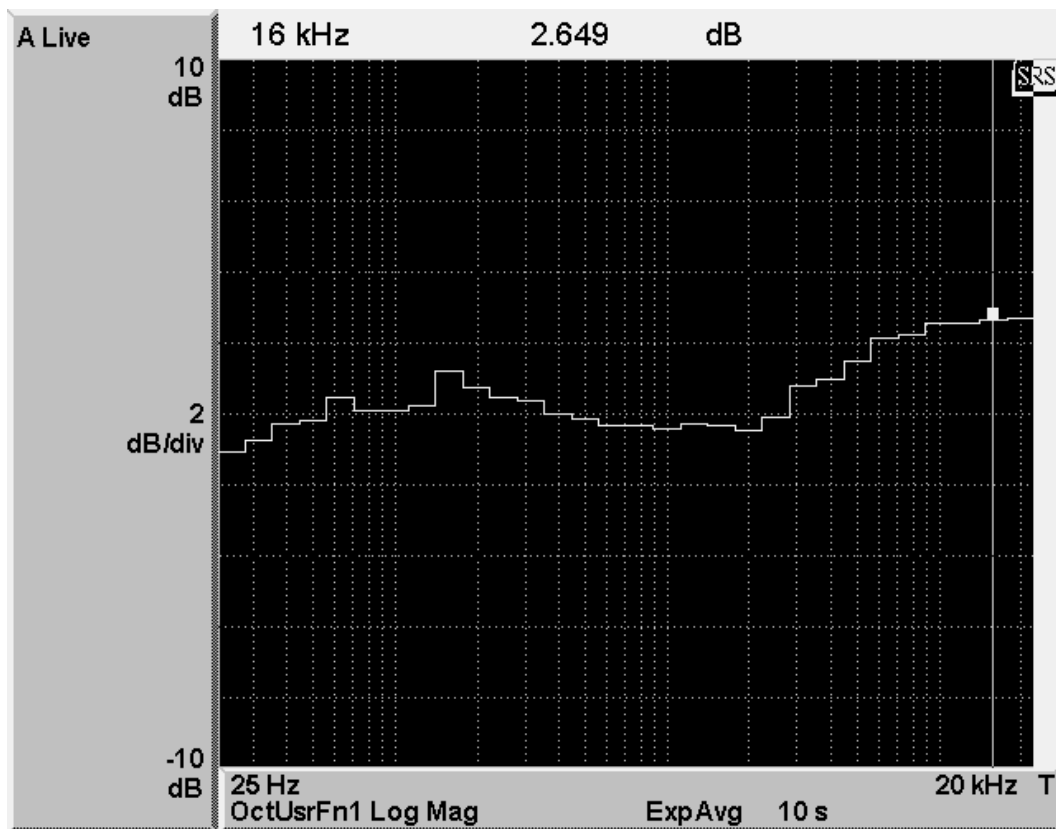
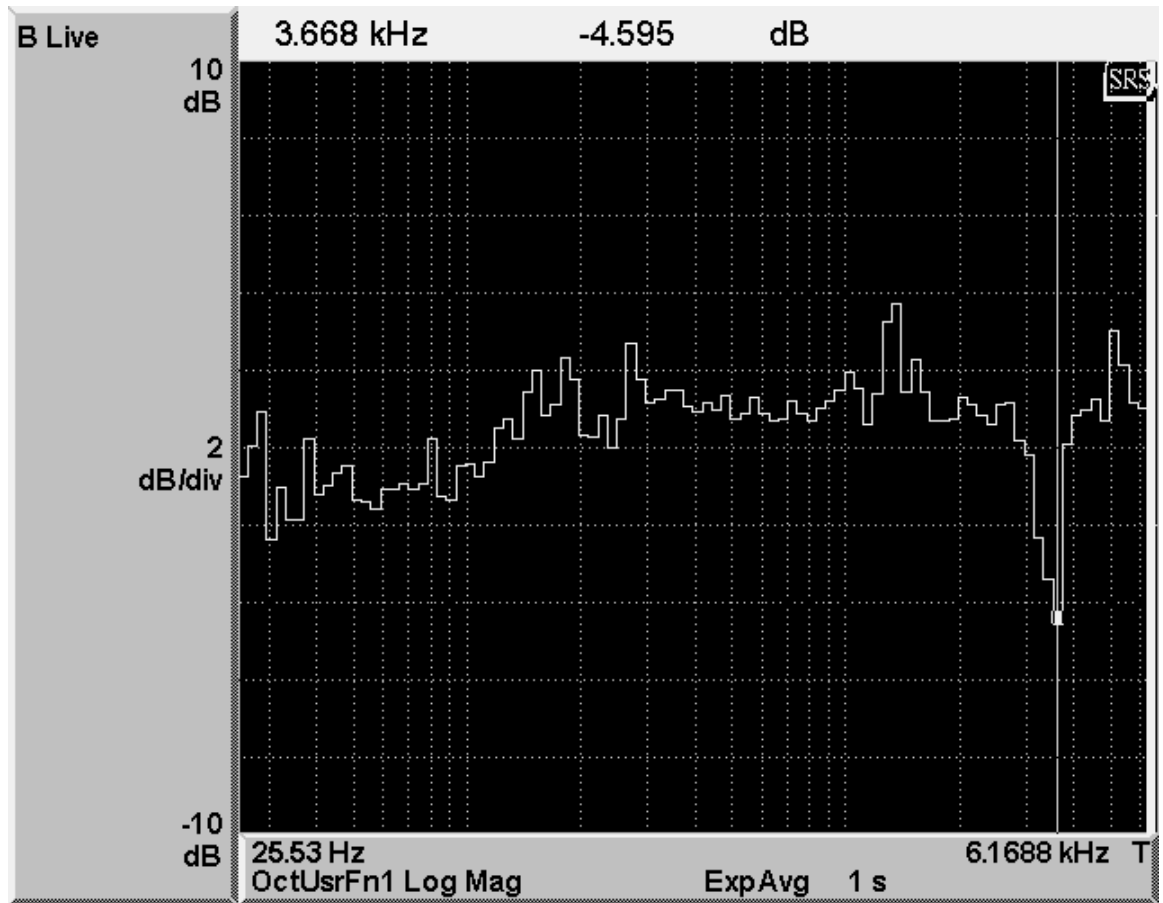

Figure 3-5
Figure 3-6
**HF Power Handling:** Figure 3-5 on page 3-99 shows a typical HF improvement: about 2.6 dB more average HF energy using the new technology. (Coincidentally, there happens to be about 1 dB more energy in the 160 Hz band but this can easily be matched more closely if the user wants.)
Figure 3-6 on page 3-100 is a twelfth-octave ratio that compares the spectrum of the 8500 and 8600 outputs in a more detailed way than the third-octave ratio seen in Figure 3-5. It shows the 8600's 4.6 dB suppression of (mainly harmonic) clipping distortion centered at 3.668 kHz caused by sustained electric guitar riding on top of bass.
The twelfth-octave ratio shows as much as 4 dB suppression of narrowband difference-frequency IM distortion in the midrange. To cause the 8500 to produce noticeable distortion, we used the IMPACT preset, which is a louder preset than GREGG or GREGG MX. To keep the comparison “apples and apples,” we used the IMPACT MX preset in the 8600. Even with these presets, the distortion in either Orban processor was negligible compared to the effect of even modest multipath and considerably less than certain other non-Orban processors produce with this material. (Note that the increase in the output starting slightly above 6 kHz does not represent distortion but is instead another manifestation of the 8600’s better HF power handling capability, which we first presented in Figure 3-5.)